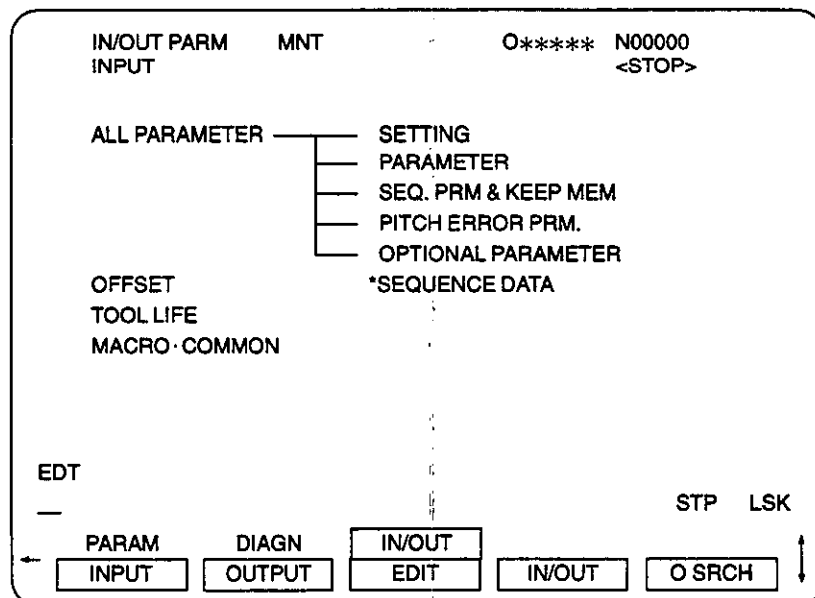

Fig. 8.23 IN/OUT PARM Function Screen
- ① Save the sequence execution module to be downloaded to the PC card.
- ② Select the maintenance job and select the "SEQUENCE DATA" by the IN/OUT PARM function. See Fig. 8.23.